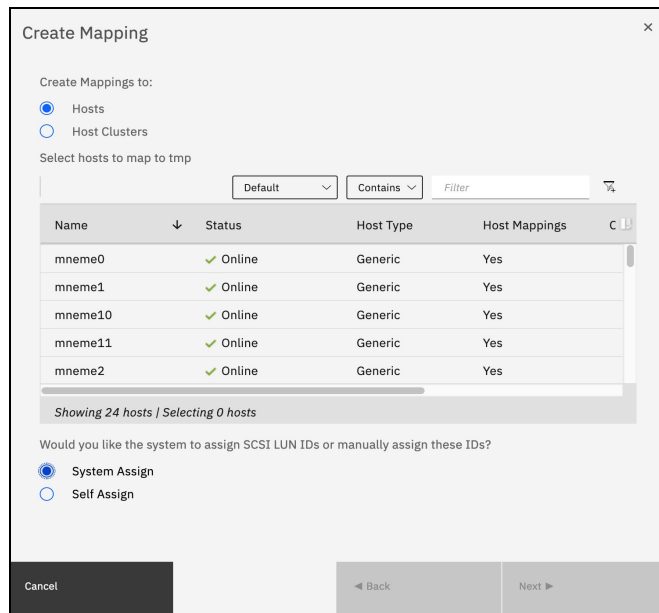

Figure 4-12 The Create Mapping page
- h. Verify the volume, and then click **Map Volumes**. See Figure 4-12 on page 140.